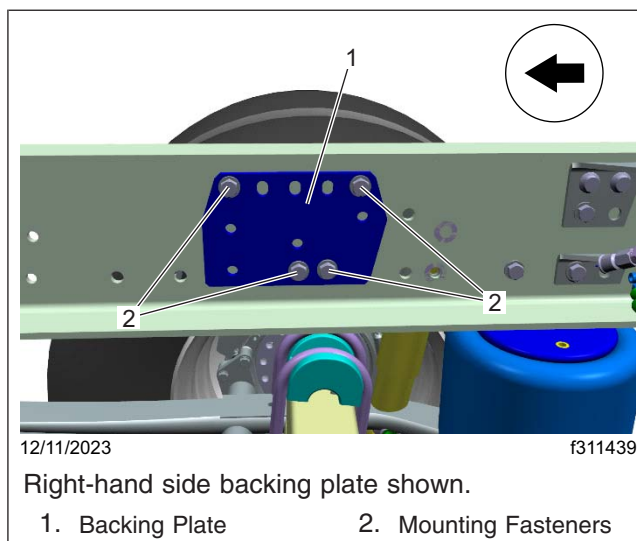

Fig. 6, Lateral Control Rod Backing Plate
8. Remove the fasteners that attach the lateral control rod backing plate to the right-hand frame rail, as shown in Fig. 6. Remove and discard the right-hand side backing plate.